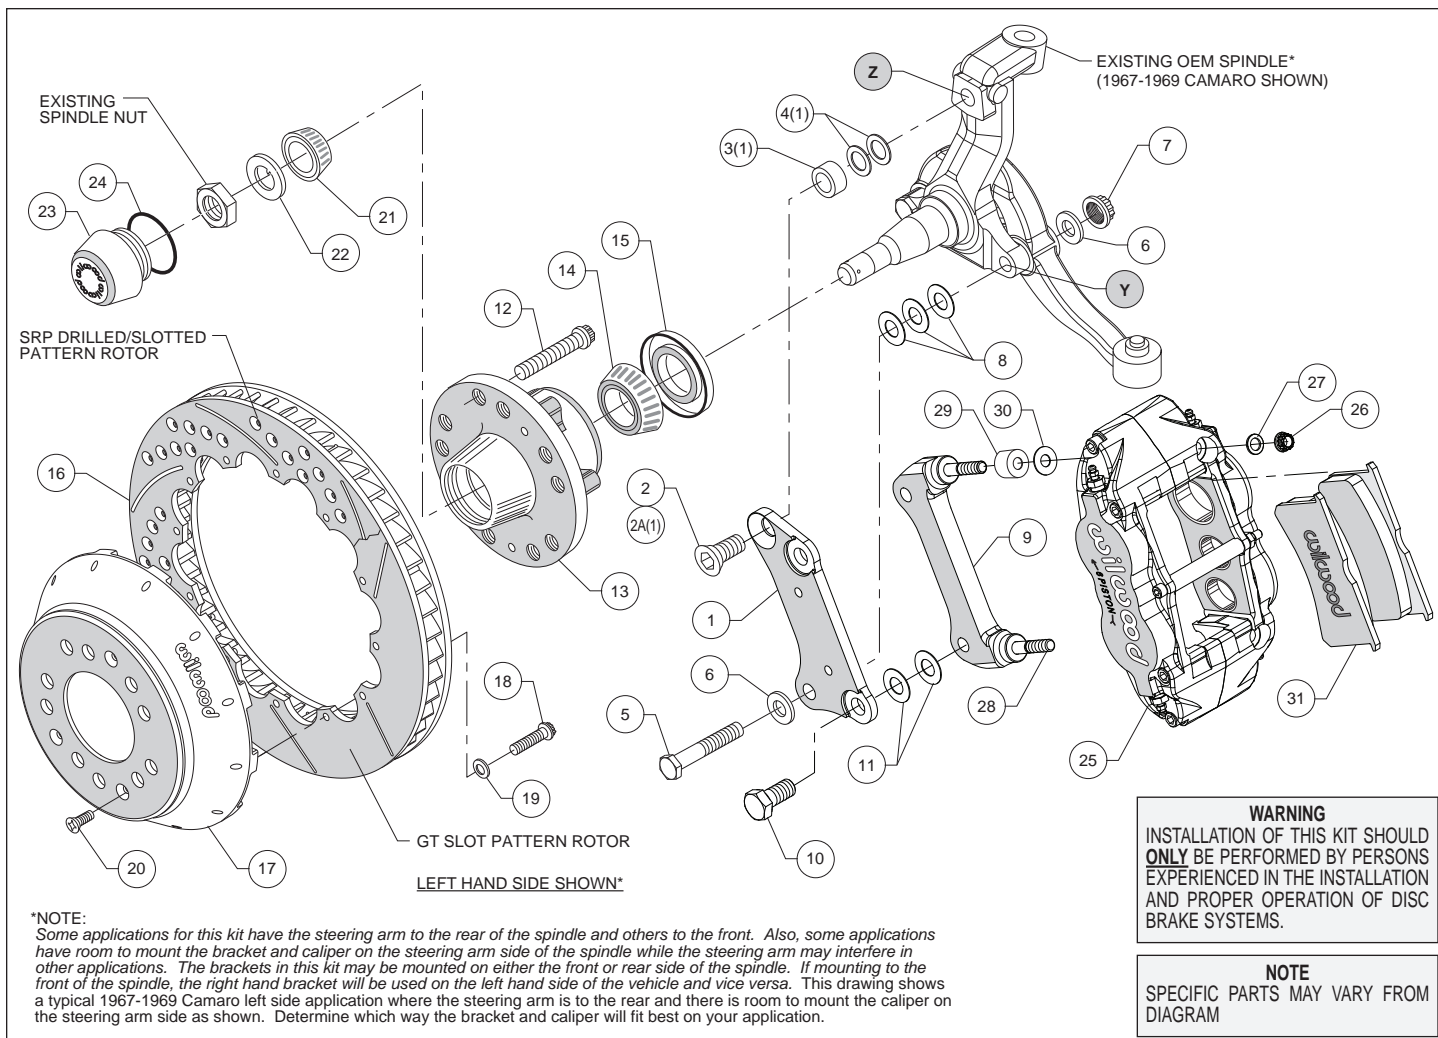
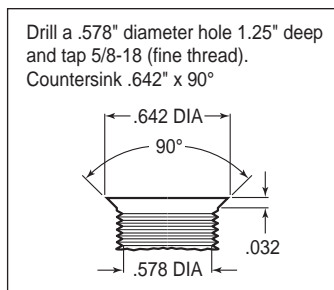
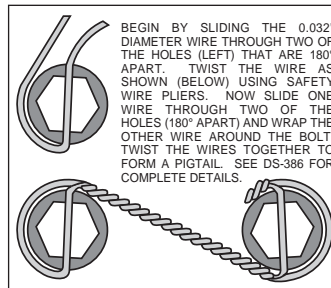

Figure 1. Typical Installation Configuration
Figure 3. Drill and Tap Detail
Figure 4. Safety Wire Diagram
Assembly Instructions (numbers in parenthesis refer to the parts list on the preceding page, and Figure 1):
•**NOTE:** Some applications for this kit have the steering arm to the rear of the spindle and others to the front. Also, some applications have room to mount the bracket and caliper on the steering arm side of the spindle while the steering arm may interfere in other applications. The brackets in this kit may be mounted on either the front or rear side of the spindle. If mounting to the front of the spindle, the right hand bracket will be used on the left hand side of the vehicle and vice versa. Figure 1 shows a typical 1967-1969 Camaro left side application where the steering arm is to the rear and there is room to mount the caliper on the steering arm side as shown. Determine which way the bracket and caliper will fit best on your application.
•**NOTE:** Some spindles in this year range may require the following modifications (reference Figure 1 and Figure 3): Top anchor pin hole (Z) must be drilled and tapped to the dimensions as outlined in Figure 3. The lower bolt hole (Y) in the spindle used to mount the new caliper bracket, and the mating steering arm hole, must be enlarged to .50" by drilling. It is recommended these modifications be performed by a qualified machinist.
•Install wheel studs (12) into the hub (13), Photo 1. Torque to 77 ft-lb. **NOTE:** There are two five lug patterns in the hub (5 x 4.50 and 5 x 4.75). Make sure of the correct hole pattern for the correct wheel application before installing studs into hub.
•Pack the large inner bearing cone (14) with high temperature disc brake bearing grease (available from your local auto parts store) and install into the backside of the hub (13).
•Install the grease seal (15) by pressing into the backside of the hub (13), Photo 2.
•Orient the rotor (16) and the hat (17) as shown in Figure 1 and Photo 3. Attach rotor to hat using bolts (18) and washers (19). Using an alternating sequence, apply red *Loctite*® 271 to the threads, and torque to 155 in-lbs. For an added measure of security, the bolts may be safety wired using standard 0.032 inch diameter stainless steel safety wire as shown in Figure 4. Please refer to Wilwood's data sheet DS-386 (available at www.wilwood.com/Pdf/DataSheets/ds386.pdf) for complete safety wire installation instructions.
•**Disc Brake Spindle Application Only:** Follow the instructions below, but instead use bolt (2A), spacer (3), and two .050" thick shims (4) in the upper bolt hole location, Figure 1.
•Orient the flat bracket (1) as shown in Figure 1 and Photo 4, and install using bottom bolt (5), washers (6), and nut (7), Figure 1. Initially place three .032" thick shims (8) between the bracket and spindle. Install the upper bolt (2 or 2A). Temporarily tighten bolts. **NOTE:** *The bracket must fit squarely against the mounting surfaces on the spindle.* Inspect for interference from casting irregularities, machining ridges, burrs, etc. Temporarily install the new hub, hat and rotor assembly. Check that the bracket is aligned parallel to the rotor, Photo 5. If not, adjust by adding or subtracting shims (8) on the lower bolt between the bracket and spindle, Figure 1. Once the bracket alignment is correct, remove the upper bolt (2 or 2A), apply red *Loctite*[®] 271 to the bolt threads, and torque to 120 ft-lb. Torque the lower lock nut to 65 ft-lb.
•The radial mount caliper bracket (9) should initially be installed with clean, dry threads on the mounting bolts. Orient the bracket as shown in Figure 1 and Photo 6, and install using bolts (10). Initially place two .029 thick shims (11) on each bolt between the two brackets, Figure 1. Temporarily tighten the mounting bolts. Later, after the caliper alignment has been checked, the mount bolts will be secured using red *Loctite*[®] 271.
•Pack the small outer bearing cone (21) with high temperature disc brake bearing grease and install into hub (13). Final install the hub assembly onto the spindle. Secure using spindle washer (22) and OEM spindle nut, Photo 7. Adjust bearings per OEM specifications. Install saved OEM nut lock (if any) and a new cotter pin (not included).
•Screw dust cap (23) into hub (13). Friction created by the o-ring (24) on the dust cap keeps it from unscrewing. **NOTE:** *The O.D. of the existing OEM spindle washer may be larger than the I.D. of the dust cap not allowing it to seat against the hub face. Therefore, use the spindle washer (22) supplied with the kit instead of the OEM washer.*
•Final install the rotor (16 and 17) assembly onto the hub (13), taking care to align the small countersunk holes in the hat with the small threaded holes in the hub. **NOTE:** *The hat must fit flush against the hub face or excessive rotor run out may result.* Install three flat head screws (20) through the small holes in the hat (17), Photo 8, and torque to 85 in-lb.
•**NOTE:** *This kit contains distinct right and left hand calipers that must be mounted in a specific direction, as described below.* Lubricate the caliper mounting studs (28) with lightweight oil. Initially place spacer (29) and one .035" thick shim (30) on each stud between the caliper and the bracket, as shown in Figure 1 and Photo 9. Mount the caliper (25) onto the bracket (9) using lock nuts (26) and washers (27), Figure 1. Ensure that the caliper is mounted so the largest pistons are at the rotor exit end of the caliper, in relation to the direction of rotor rotation. Temporarily tighten the lock nuts. The rotor should be centered in the caliper, Photo 10. If not, adjust by adding or subtracting shims (11) between the flat bracket (1) and the caliper bracket (9). Always use the same